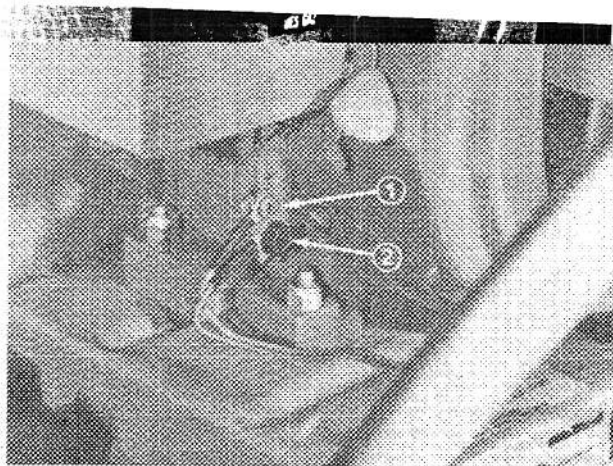

Figure 11
1. Remove phillips head screw and wire from engine bracket, install wire with smaller I.D. hole and reassemble to engine bracket (Fig. 11).
2. Insert flange head capscrew through large I.D. hole in remaining wire and install in lower hole in engine bracket (Fig. 11).